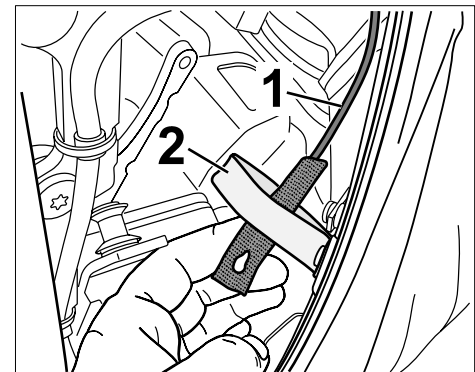

Figure 11
- 3.5 Guide the end piece of the tension rope ⇒ *Figure 11 -Pos. 1-* through the tab on the C-pillar of the convertible top ⇒ *Figure 11 -Pos. 2-*.